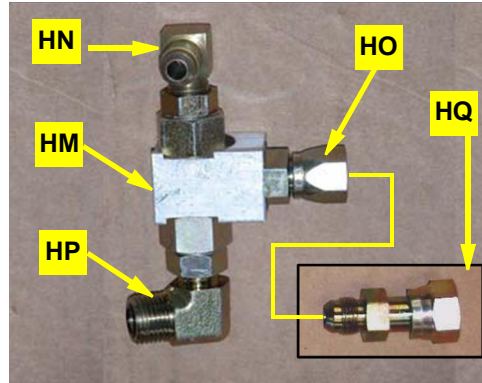

Figure 7a: Assembled load sense shuttle valve
- a. Assemble the load sense shuttle valve **HM** with the adapter fittings **HN**, **HO** and **HP** (Figure 7a).